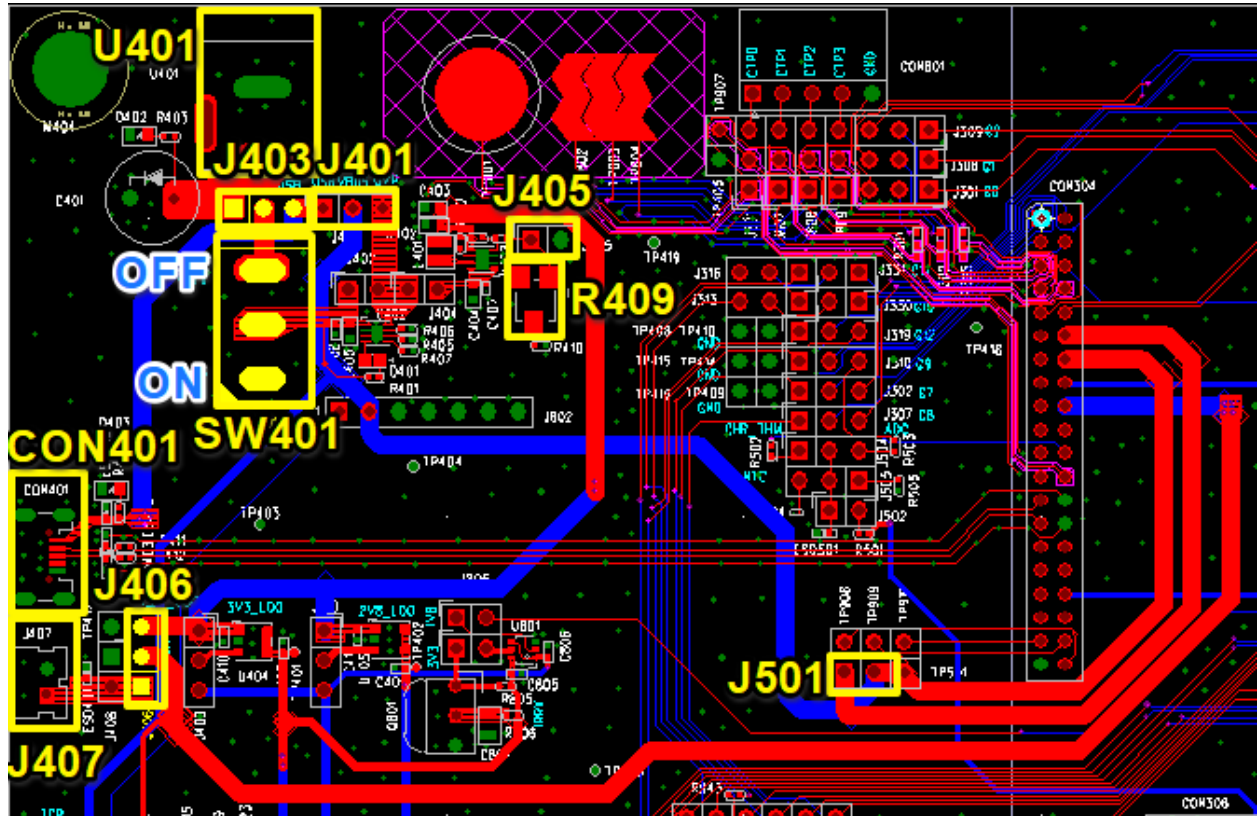

Figure 4-3 Power supply & Charger path
- Figure 4-3 shows CON2001 is the connector for the 5V input, and SW2001 is the switch for DC 5V power supply. Alternatively, a Li-ion battery can be attached to J2007 for power supply. Users can refer to
AB1585/AB1588 main board have external BUCK voltage tuning design. Please refer Figure 4-3 and follow description to tuning BUCK output voltage to simulate different voltage battery.